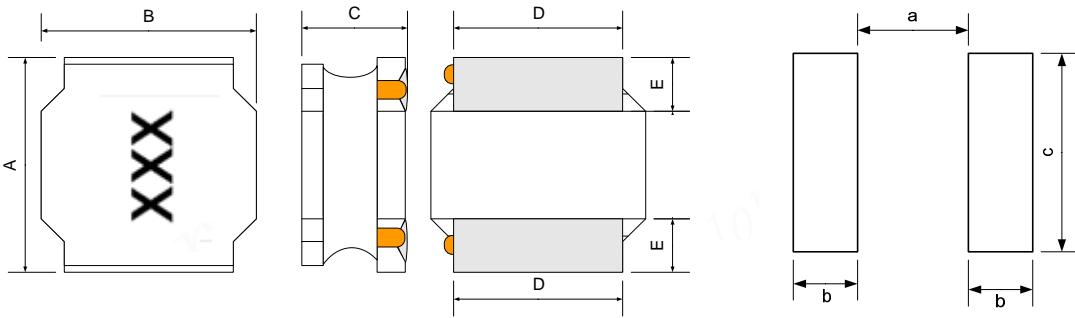

Fig.4-1
- 1) Dimensions and recommended PCB pattern for reflow soldering, please see Fig.4-1 and Table 4-1.